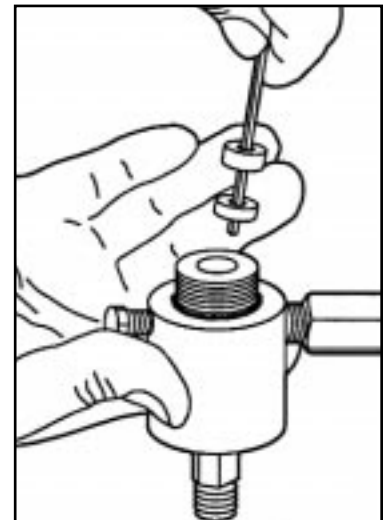

Figure 44
5. Use a 3/16" Allen wrench to remove the plunger seal set-Teflon graphite from the fluid cylinder. (Fig.44)